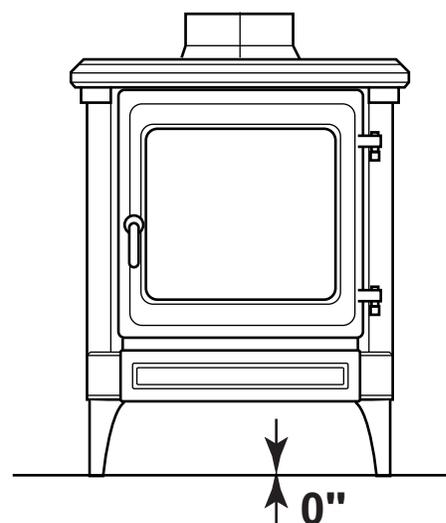

Figure 5 - Clearance to Floor (C28/40)
- No clearance is necessary to the floor. Stove may sit on the floor. *See Figure 5.*